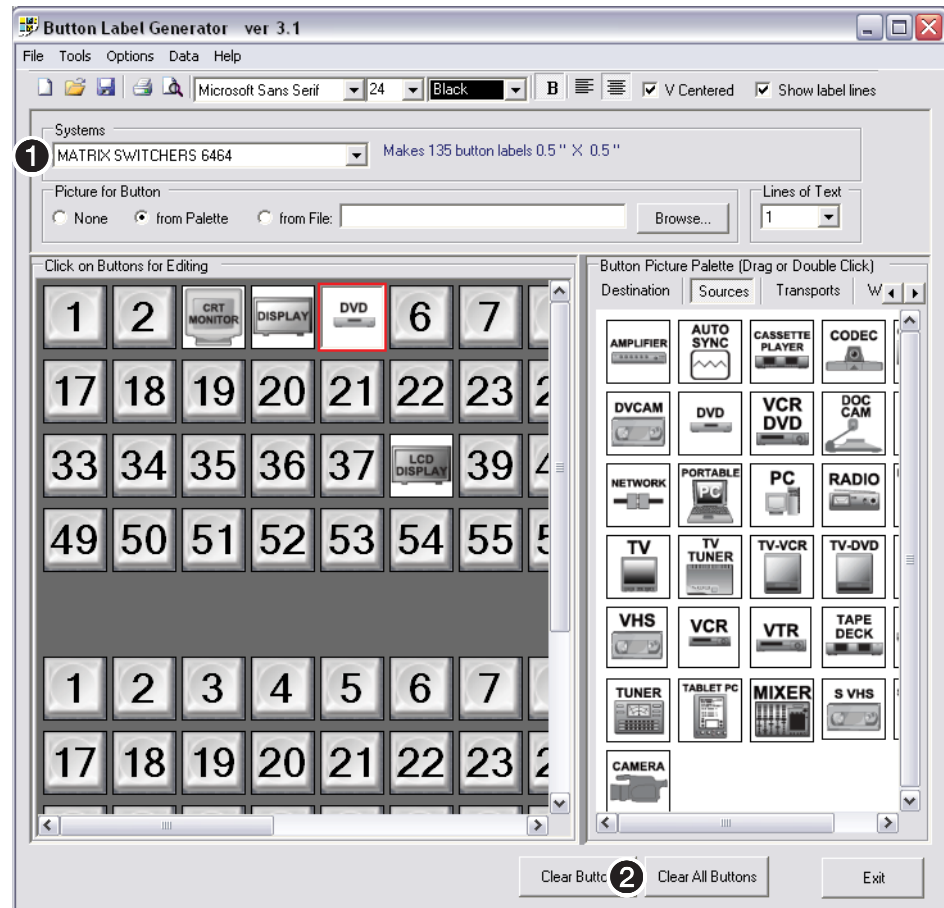

Figure 83. Extron Button-Label Generator Window
1. To run the Button-Label Generator program, click **Start > Programs > Extron Electronics > Button Label Generator > Button Label Generator**. The Button-Label Generator window appears (see figure 83).